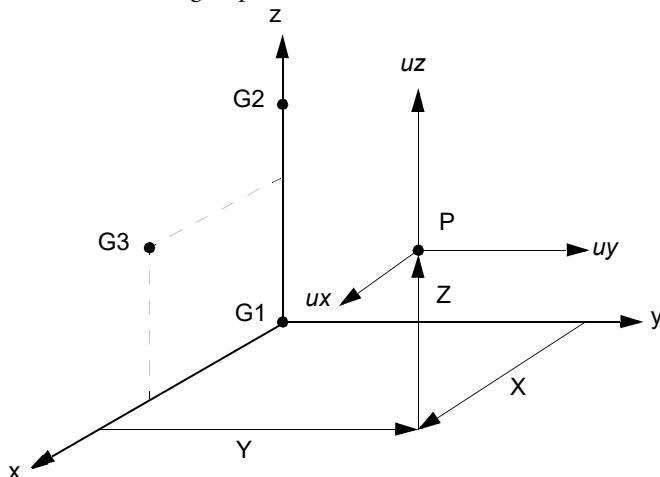

Figure 9-41 CORD1R Definition
4. The location of a grid point (P in Figure 9-41) in this coordinate system is given by (X, Y, Z).